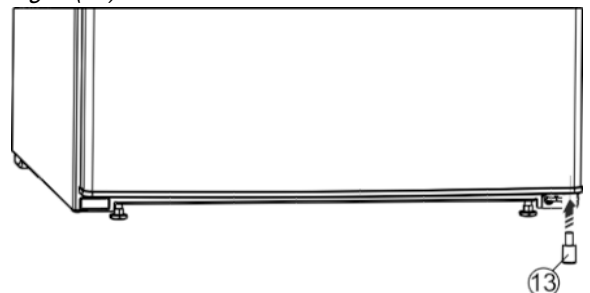

Fig. 10
- ▶ Insert the spacer Fig. 10 (13) back under the right-hand side of the door, as this is important for the stability of the appliance.